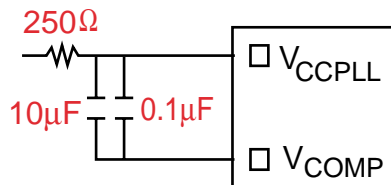

Figure 33 PLL Electrical Interface
- Figure 33 incorrectly shows the capacitors' values as 10pF and 100-250pf. The values should be **10 μ F** and **0.1 μ F**. See corrected figure below.
- Figure 33 incorrectly shows the resistor value as 100-200 Ω . The correct value is **250 Ω** . See corrected figure below.